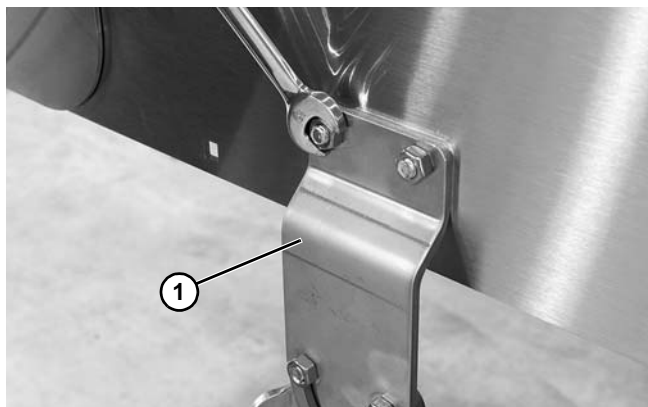

Figure 7
2. Attach the stands (Figure 7, item 1) to the frame. Tighten to 14-16 ft-lbs (19-22 Nm).